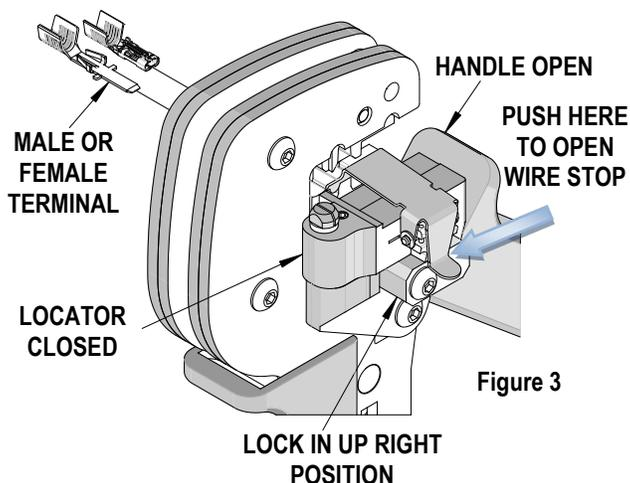

Figure 3
Swing the terminal locator against the crimp tool and turn the lock up to lock the locator. Terminals can be loaded easily while the locator is against the crimp tool and locked. The spring-loaded locator needs to be in the up position for terminals to load easily. See Figure 3.
1. To raise the wire stop, press the tab on the wire stop as shown in Figure 3. Insert the proper terminal into the nest opening and release the wire stop to lower it. Make sure when choosing the nest opening, it will correspond with the A or B profile on the hand tool.